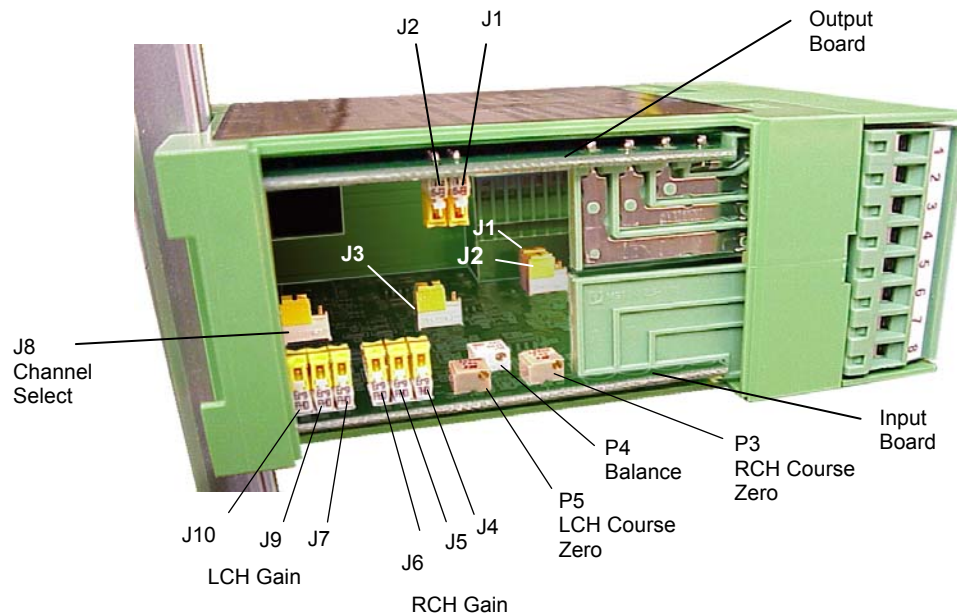

Figure 4 - Internal Jumper-switches and Potentiometer Location
A number of operational characteristics can be configured prior to mounting or wiring the amplifier. We recommend that you first familiarize yourself with the internal switch locations, settings, and potentiometers by opening the snap-on access cover. Figure 4 illustrates the location of configurable items on each of the printed circuit boards.
In addition to the Gain and Zero adjustable Potentiometers visible on the front of the unit, there are adjusts you can make by removing the snap-off cover on the side of the amplifier. The adjustments are on the output and input printed circuit boards as shown in Figure 4. The following table provides you with a list of Potentiometers, where they are located on the Ultra Series DIN Rail input printed circuit board, and a description of their functions.
The Excitation Voltage is determined by the position of jumper switch J3. Refer to Figure 4 for Jumper-switch locations. The jumper default setting is J3 (1-2) for 5.00V excitation. Do not use 10V setting J3 (2-3) unless explicitly permitted by the load cell electrical specifications. Promptly verify the excitation voltage after power-up to avoid overdriving strain gages. Note that if there is no external load resistance, the voltage may rise to 6.4V, but will immediately regulate at 5.00V when the load cells are connected.
The group of jumper-switches that control the fixed gain of the Instrumentation Amplifiers (IA) are located closest to the front left edge of the Input card. (Refer to Figure 4) Typically, you configure both channels to the same setting if both transducers are the same force rating.
When the amplifier is held horizontally with the pluggable connectors facing toward the right (refer to Figure 4), the leftmost cluster (J10, J9, J7) sets the gain for the LCH (Left Channel) Instrumentation Amplifier. Similarly, the right cluster (J6, J5 and J4) sets the gain for the RCH (Right Channel) Instrumentation Amplifier. The lowest gain ($A_v = 8$) occurs when all of the switches are in the 1-2 position. As switches are moved “away” (into position 2-3) from left to right, the gain progressively increases as described in following table:
The damped output for a tension indicator can be configured as either a +/- 2V output or a +/- 1mA output by changing the position of jumper-switch J1 located on the Output Card (Refer to Figure 4 for location). Voltage output is selected by setting J2 (1-2). Current output is selected when J2 (2-3). Note that different wiring terminals are employed for the signal return when configured for current or voltage.
The amount of damping for the meter output (intended to drive a tension indicator) can be configured by the position of jumper-switch J2 on the Output card (refer to Figure 4 for location information). Setting the jumper switch to J2 (1-2) sets the break frequency at 0.3 Hz. Setting the jumper switch to J2 (2-3), the break frequency setting is raised to 3.7 Hz